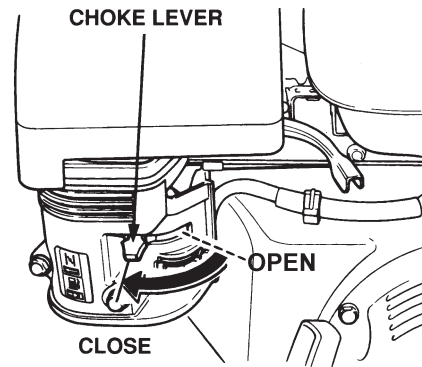

Figure 10. Choke Lever
2. To start a cold engine, move the choke lever (Figure 10) to the **CLOSED** position.